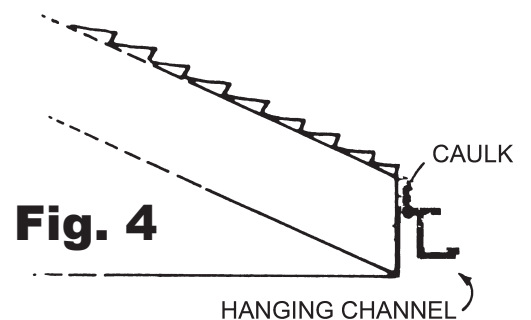

Fig. 4
D. Slide hanging channel (**Part 1**) into bottom of hanging rail (**Part 1-A**) using a 5/16" socket drive and # 12 x 2-1/2" screws (**Part 17**) fasten the hanging rail(s) to the fascia board or wall. Caulk the top of the hanging rail (**Part 1-A**) (**Fig 4**).